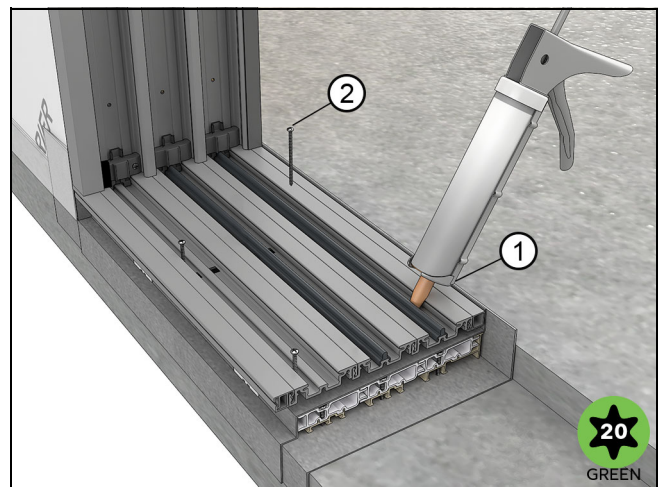

Figure 58 Seal and fasten HP sill.
9. Inject sealant and fasten with the #8 x 1 3/4" self drilling screws every 10" (254) (T20 Torx). See Figure 58.